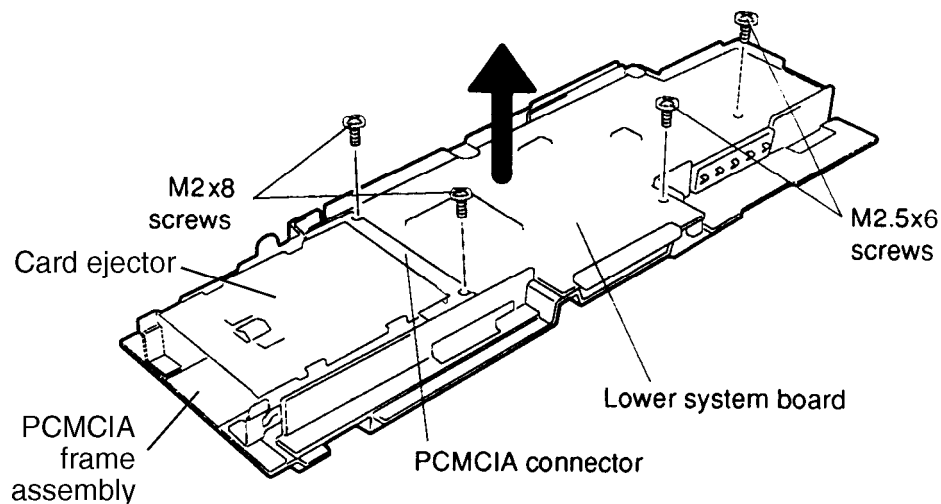

Figure 4-22 Removing the Lower System Board
10. Remove the **two M2x8 screws** on the **PCMCIA connector**, and **two M2.5x6 screws** on the lower system board (Figure 4-22).
4. Secure the **two M2x8 screws** on the **PCMCIA connector** and **two M2.5x6 screws** on the lower system board (Figure 4-22).